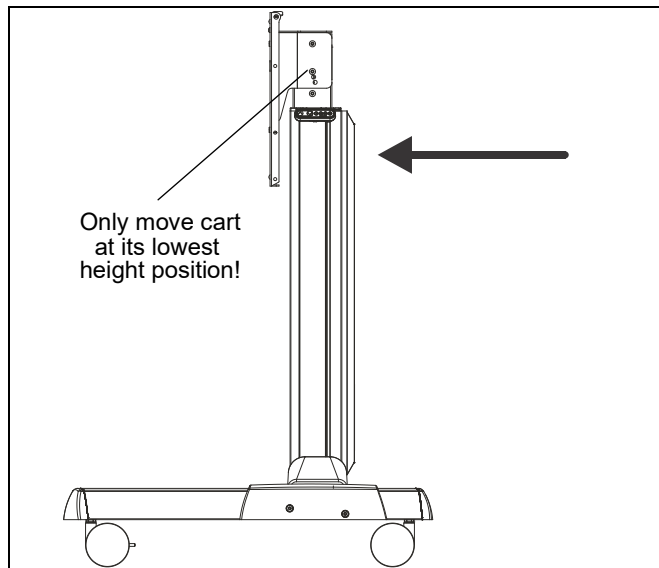

Figure 24
**WARNING: CART CAN TIP OVER RESULTING IN INJURY!** Move cart slowly and with the cart set at its lowest position. Use handles for additional stability. Push, don't pull cart. (See Figure 24)